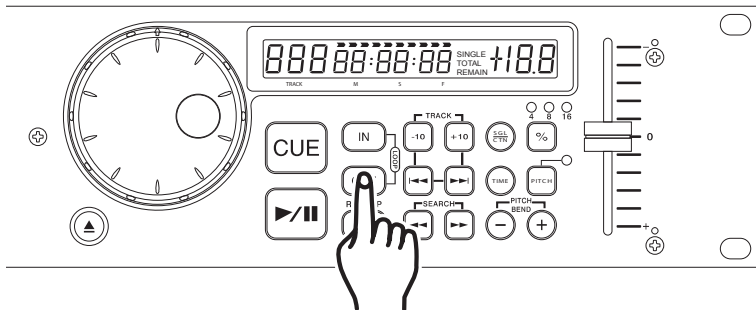

Figure 24
3) Press the OUT BUTTON (15) to set the ending point for your Loop (Figure 24). The OUT and IN BUTTON's will stay lit indicating a Loop is playing. Press the OUT BUTTON again to stop the Loop.
4) Press the RELOOP BUTTON (14) to reactivate the loop. Press the OUT BUTTON (15) to deactivate the loop.